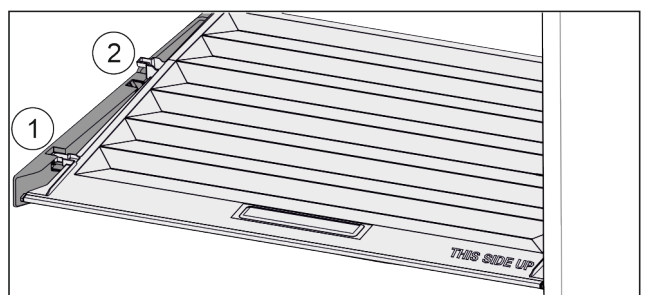

Fig. 115
- Pull the lid up at the front to the opening in the retaining parts Fig. 115 (1).
- Lift from the back and pull it up and out Fig. 115 (2).